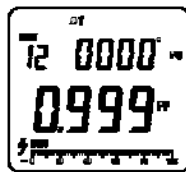

Figure 20
4. When measuring 3 phase 4 wires: (see figure 20, 21, 22).
- Press **SELECT** to choose the first phase $\varnothing 1$, see figure 20.